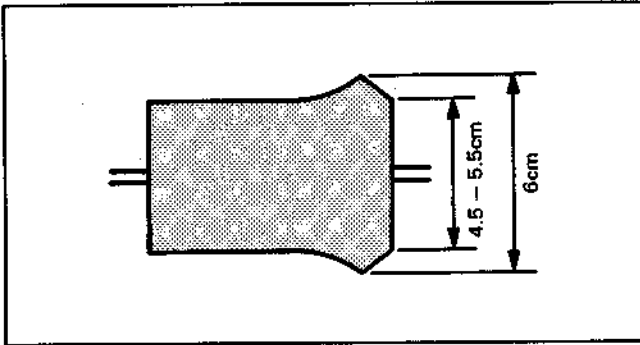
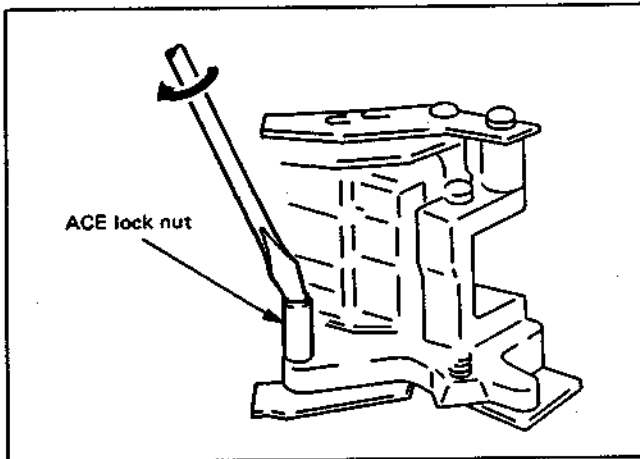
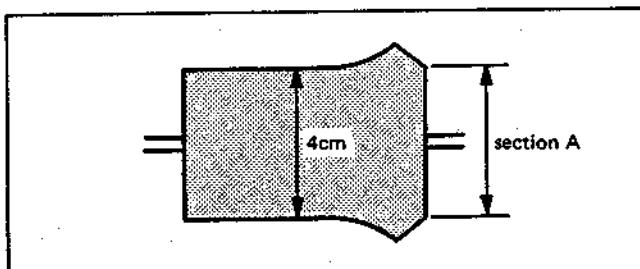

Fig. 2-16 Lateral Waveform
Fig. 2-17
Fig. 2-18
- 4) While observing the RF output waveform, turn the ACE lateral adjustment screw slowly clockwise (after 30° turn, observe for 5 – 10 seconds), so that the waveform is as shown in Fig. 2-16. When the waveform fluctuates, adjust so that the part with the fewest peaks becomes the waveform in Fig. 2-16.
- 5) Turn the ACE lock nut clockwise with a screwdriver and tighten lightly. (Fig. 2-17) Confirm that the change in the RF waveform at this time is within 1cm at section A relative to the waveform in Fig. 2-16, when the center is 4cm. (Fig. 2-18)